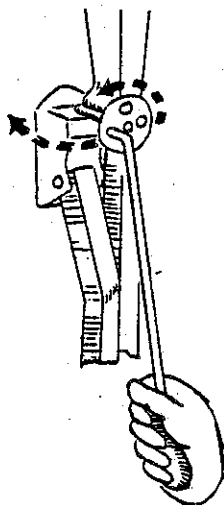

Figure 11-1.
1. Loosen clamp wheels and tilt inward, as shown in **figure 11-1** (may easily be hand loosened while standing on step).